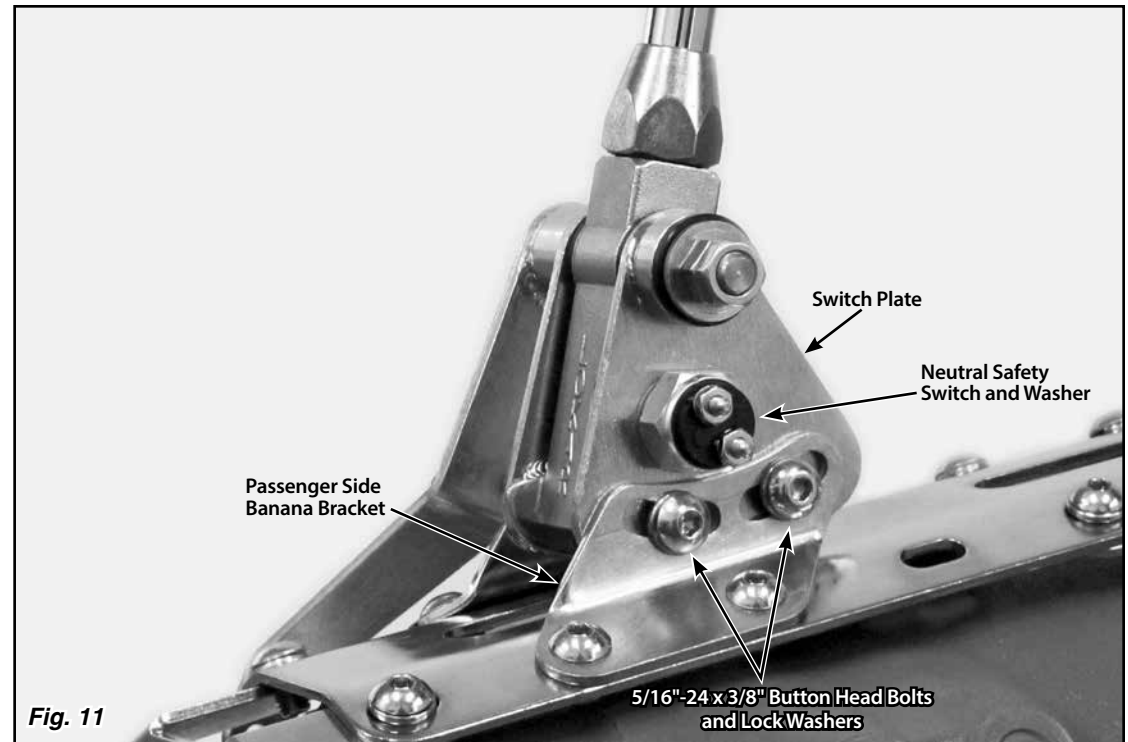

Fig. 11
Step 17: Remove the neutral safety switch and washer from the switch plate on the **passenger** side of the shifter using a 7/8" wrench or socket. **Fig. 11**
Step 18: Loosen, but do not remove, the two 5/16"-24 x 3/8" button head bolts and lock washers that attach the switch plate to the passenger side banana bracket (the bolts are in curved, slotted holes). **Fig. 11**